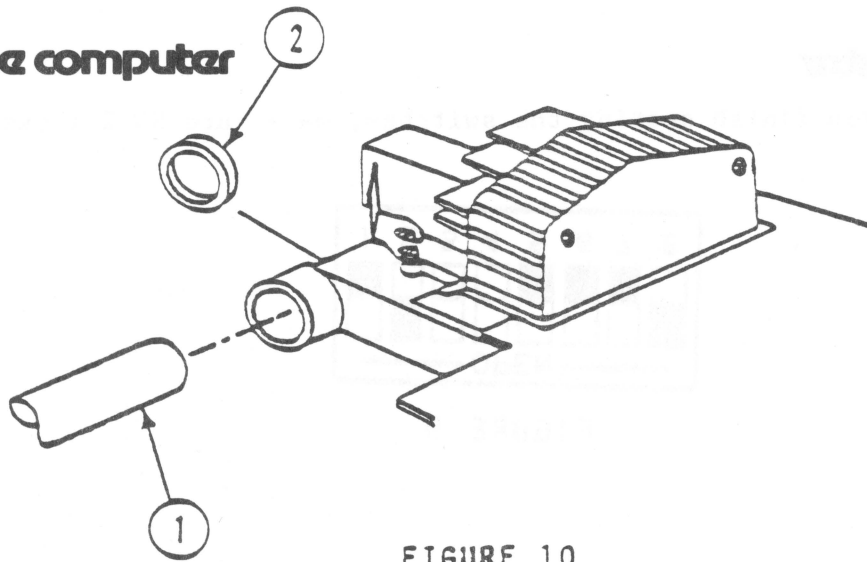

FIGURE 10
4. On the carrier shaft, wipe off any dirt with dry gauze or absorbent cotton. (See Figure 10, #1.)
5. On the lubrication ring, apply a small amount of lubrication oil. (See Figure 10, #2.)